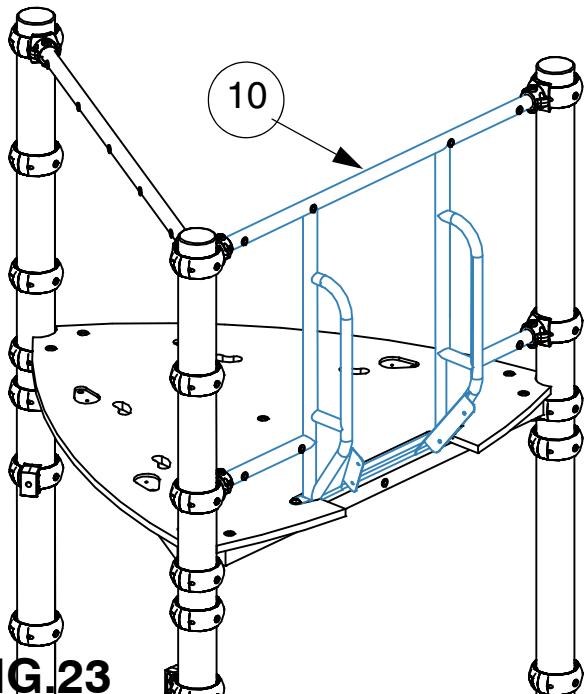

FIG.23
34) Attach in 4 places 1 off Slide Entry Frame (item 10) to the Clamp Rings that are 800mm above the Deck fixings and the lower 600mm centers Clamp Rings. Each end of the Slide Entry Frame rails is held between a Bar Socket Top (item 49) and a Bar Socket Bottom (item 48) using 2 off BHCS Fixings (item 81) and should be fixed with the plastic panel fixing inserts and slide mountings on the outside of the structure. See FIG.23, 24 & FIG.C.
- ii) Attach Slide Entry Frame through Deck into Deck Frame using 2 off M10 x 40 Resistorx bolts (item 54) and M10 washers (item 65).